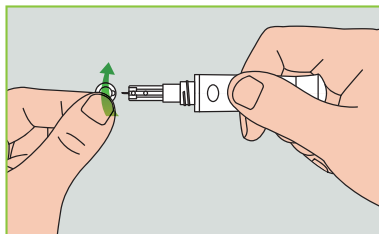

Figure 87
**2** Twist off the safety cap from the lancet, (Figure 87) and save the safety cap for lancet disposal.